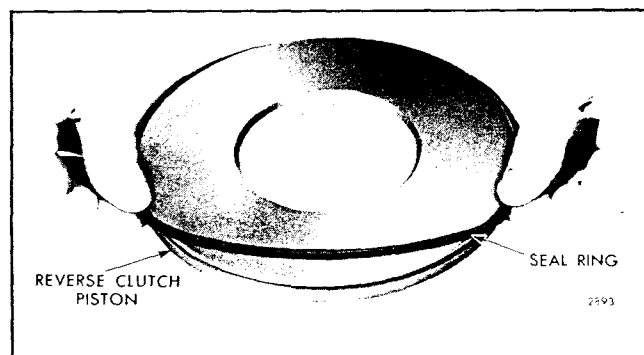

Fig. 77 - Installing Reverse Clutch Piston Seal Ring on Piston
- e. Lubricate the reverse clutch piston outer seal ring with engine oil and install the seal ring in the groove in the outside diameter of the reverse clutch piston as shown in Fig. 77.